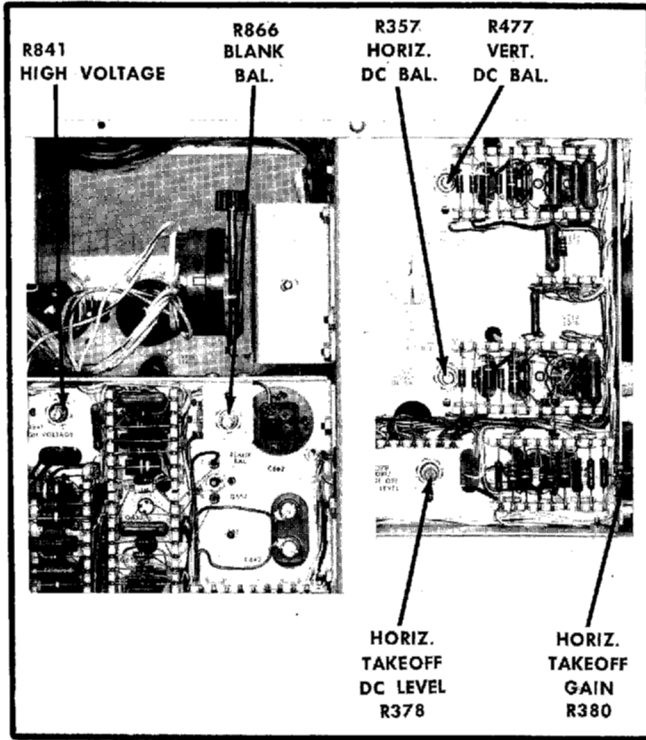
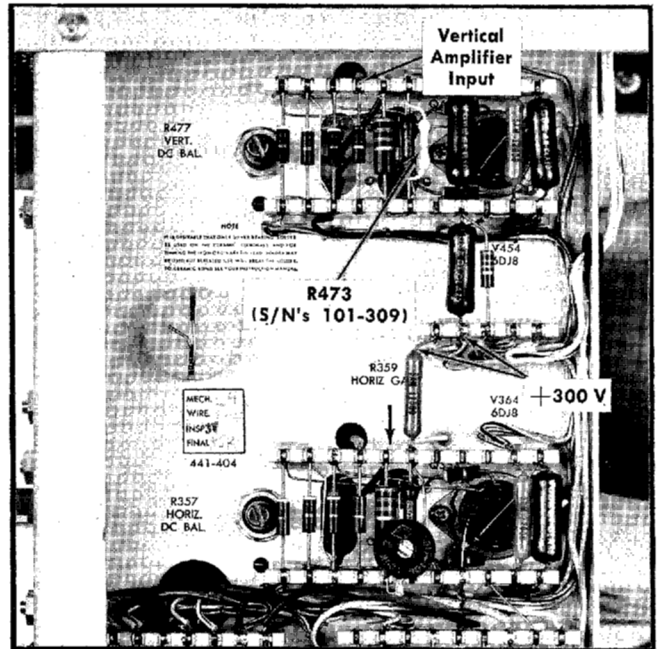

Fig. 5-2. Location of some adjustments on left side of oscilloscope (for instruments with serial numbers 101 through 309).
Fig. 5-3. Location of input to Type 661 Vertical Amplifier.
Disconnect the resistor from +300 volts. Carefully position the crt spot to the left edge of the graticule. Reconnect the resistor to +300 volts. If the spot does not move exactly 10 centimeters (plus or minus the error percentage just determined), adjust R841 (HIGH VOLTAGE control, Fig. 5-2) until the spot moves the correct amount. It may be necessary to repeat this procedure several times for proper adjustment.
Connect the dc voltmeter between the center terminal of R866 (BLANK BAL control) and pin 6 of V874 to check the differential voltage between the crt blanking deflection plates. V874 is located between the two ceramic strips adjacent to the control (see Fig. 5-2). Adjust the BLANK BAL control for zero volts on the meter. Turn off the Type 661, install both plug-in units, and turn the Type 661 back on.
Alternately connect and disconnect a 2-meg, 1% resistor between a +300-volt test point and the vertical amplifier input (see Fig. 5-3). The display should be spot alternately at -3 and $+3$ centimeters, ± 2 millimeters. If the scan is more than ± 2 millimeters from being 6 centimeters, check the vertical amplifier transistors and tubes. If they are satisfactory, then change the value of R473 according to the following procedure.
If it is necessary to change the value of R473, remove the existing resistor (Fig. 5-3). Obtain a group of $1/4$ -watt, 1% deposited-carbon resistors ranging from about 5 through 12 megohms (such as 5, 7.5, 9, 10, and 12). Grasp a new resistor with the pliers and touch its leads to the ceramic strip terminals at the location for R473. Observe the crt display for 6 centimeters. When a resistor is found that gives the correct gain, trim its leads to the correct length and solder it in exactly the same position as the resistor removed.
Alternately connect and disconnect a 2-meg, 1% resistor between a +300-volt test point and the vertical amplifier input (see Fig. 5-3). The display should be spot alternately at -3 and +3 centimeters, ± 2 millimeters. If the scan is more than ± 2 millimeters from being 6 centimeters, check the vertical amplifier transistors and tubes. If they are satisfactory, adjust the HIGH VOLTAGE control (R841; see Fig. 5-2) for 6 centimeters between spots as the 2-meg resistor is alternately applied and removed.
Connect a 1.5 k, 1% resistor between the vertical amplifier input (Fig. 5-3) and ground. Horizontally position the crt spot to the graticule centerline, and adjust R477 (VERT. DC BAL.) to vertically position the spot to the centerline.
Set the Type 661 HORIZONTAL DISPLAY switch to EXT. HORIZ. INPUT, 5 VOLTS/CM, DC. Connect the Time-Mark Generator through a 50-ohm cable and a 47 k, $\frac{1}{2}$ watt resistor to the Type 661 vertical amplifier input (shown in Fig. 5-3). Use item 20 of "Equipment Required" at the end of the 50-ohm cable. Set the Time-Mark Generator to deliver 50 μ sec time marks.